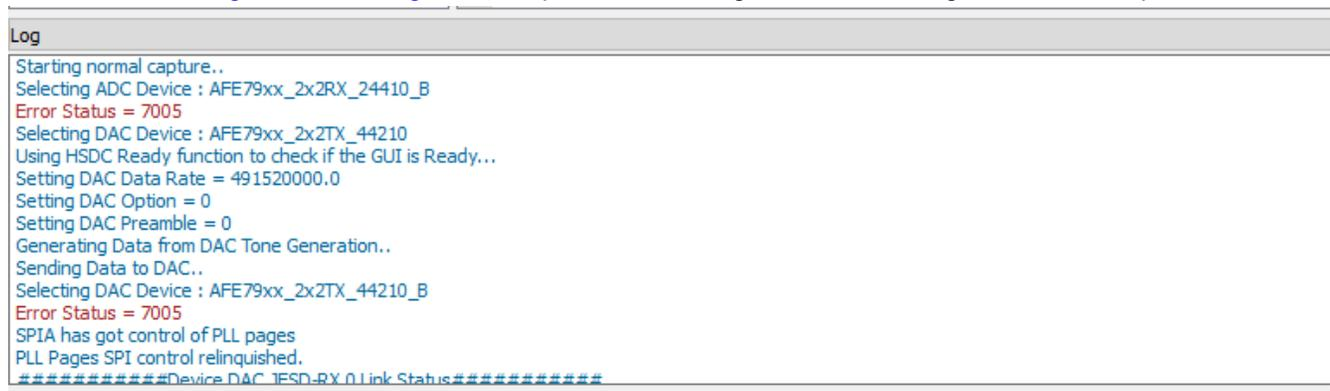

Figure 4-6. Latte Error 1
- As shown in Figure 4-6 and Figure 4-7 expect the following two error messages after the script runs.